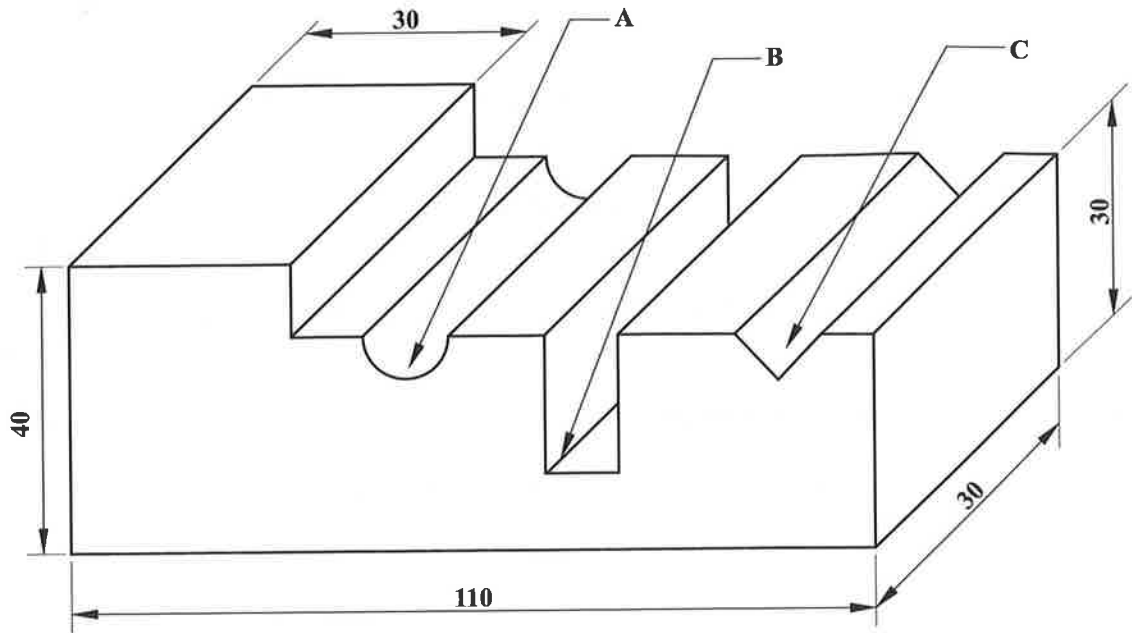

Figure 5. Milled block
6. A component that is to be machined on the horizontal milling machine from a mild steel block $110 \times 30 \times 40$ mm is shown in Figure 5.